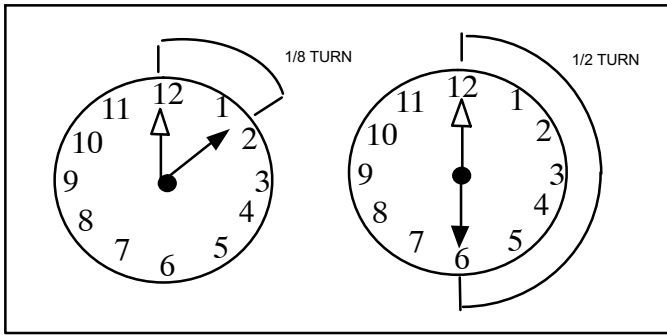

Figure 23. Tightening Distances
Use figure 23 to tighten fasteners and caps when a torque wrench is not available.
4. Attached the liquid line assembly to the liquid line orifice housing. Finger tighten and use an appropriately sized wrench to turn an additional 1/2 turn clockwise as illustrated in figure 23, or 20 ft-lb.
3. Attach the stubbed end of the TXV to the liquid line orifice housing. Finger tighten and use an appropriately sized wrench to turn an additional 1/2 turn clockwise as illustrated in figure 23, or 20 ft-lb.
5. Attach the liquid line assembly to the TXV. Finger tighten and use an appropriately sized wrench to turn an additional 1/2 turn clockwise as illustrated in figure 23, or 20 ft-lb.
- Connect the equalizer line from the TXV to the equalizer suction port on the suction line. Finger tighten the flare nut plus 1/8 turn (7 ft-lbs) as illustrated in figure 23.